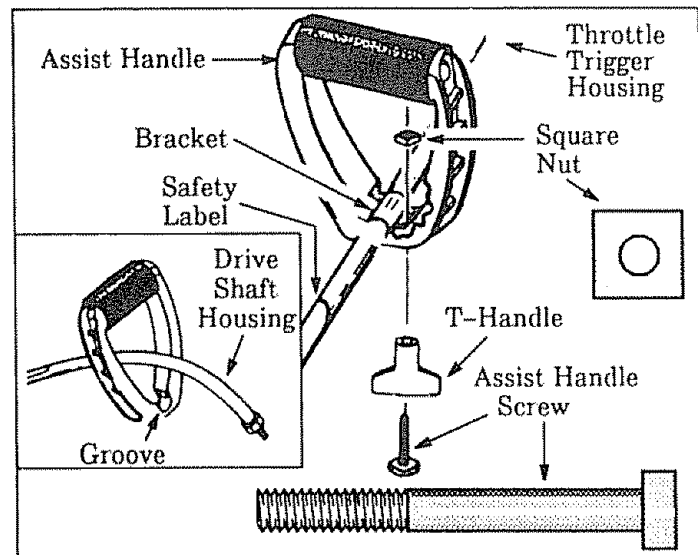

Figure 6
## 3. ASSIST HANDLE – Figures 6 & 7
- Insert the end of the Drive Shaft Housing through the Assist Handle. Figure 6 (inset).
- Align the Assist handle between the Safety Label and the Throttle Trigger Housing. Seat the Drive Shaft Housing in the groove in the Assist Handle. Figure 6.
- Insert the tab on the Assist Handle Bracket into the slot on the Assist Handle. Figure 6. Then, lay the Assist Handle Bracket into position over the Drive Shaft Housing.
- Insert the Screw up through the hole in the Assist Handle and then through the Assist Handle Bracket. Figure 6.
**CAUTION:** When adjusting the Assist Handle for comfort, be sure that the Assist Handle remains between Engine and Safety Label on Drive Shaft Housing. Figure 6.